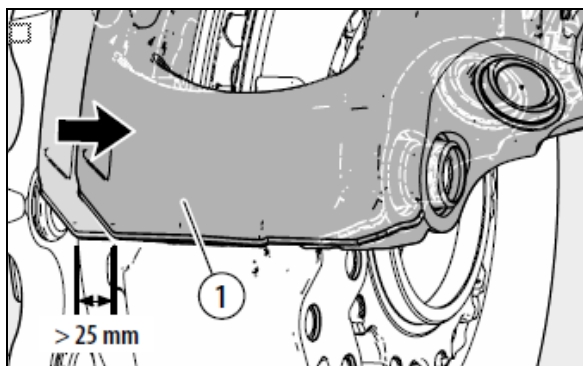

FIGURE 92: FREE MOVEMENT OF CALIPER > 0.984 IN / 25 MM
8. Caliper (1) must slide freely along the whole length of the guide pin arrangement; movement should be greater than 0.984 in / 25 mm. (see Figure 92).